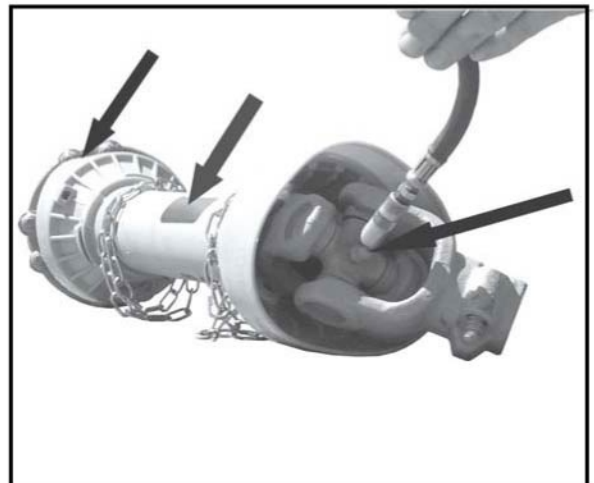

Figure 14
*Tail wheel fork (See Figure 14, page 17).
*Both U-Joints on the PTO shaft (See Figure 14, page 17).